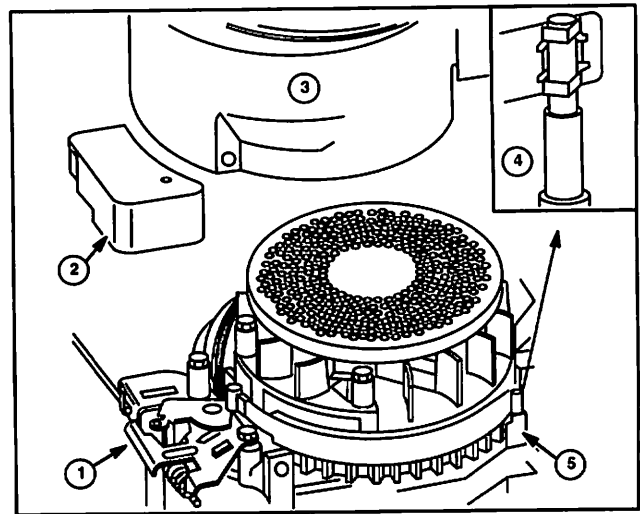
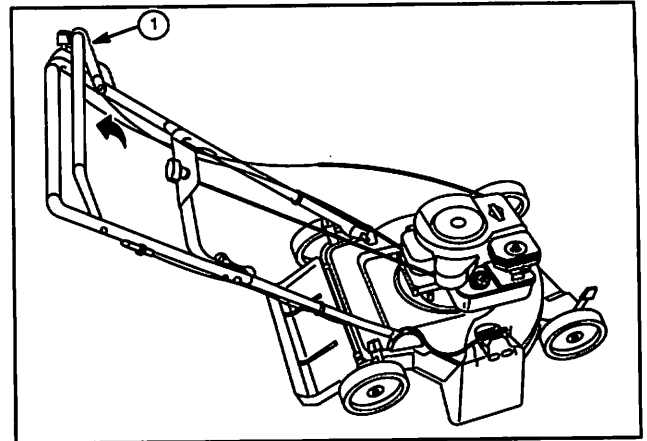

Fig. 116
Fig. 117
System 3® and 4® engines are equipped with the band brake feature, Fig. 116. The band brake **MUST STOP** the engine (cutter blade) within **three seconds after operator releases equipment safety control**, Fig. 117.
- Anchor post (5) or alternate type – inset (4) misaligned or bent.
- Control bracket lever (1) rivet worn or loose. (Check ignition system as noted in Section 2.)
- Control bracket (1) misadjusted.
- Equipment controls (1) damaged, Fig. 117.
- Loosen cable clamp screw and remove cable from control lever, Fig. 116.
1. Remove blower housing and rotating screen, Fig. 116.